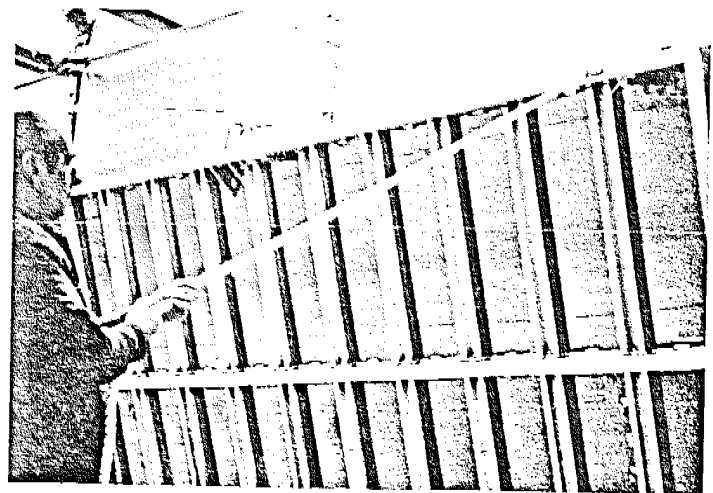

FIGURE 4
4. **HOOK PULL ROPES** on top deck corners and pull out as decks are being lowered. (See Figure 4).